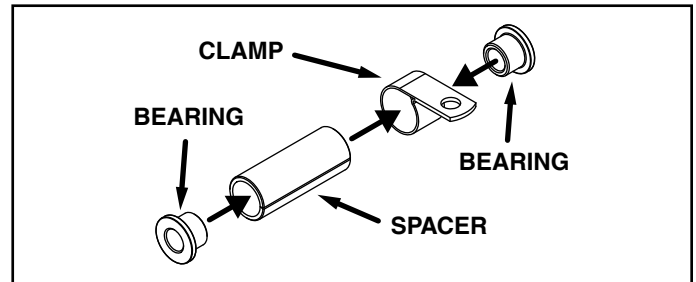

FIGURE 7
1. Assemble the four bearings to the two spacers and then slide each through a clamp. See figure 7.